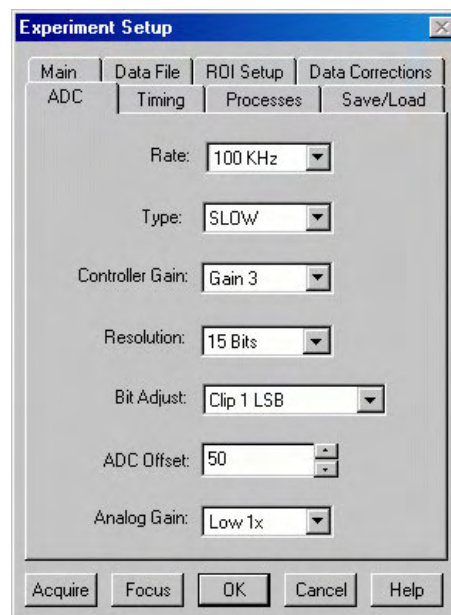

Figure 30. Generic ADC tab page
5. On the **ADC** tab page (Figure 30), set the parameters as they apply to your particular system. Parameters that might be listed follow: